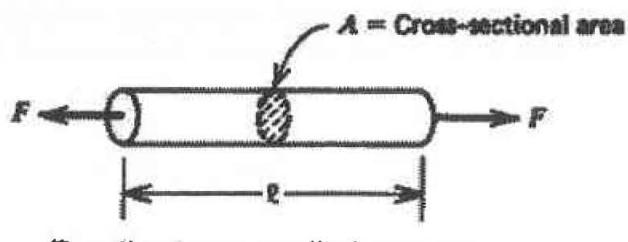

Figure 3 (Rajah 3)
- (c) (i) Based on Figure 3, proof that the change in resistance, in a strain sensor is $\Delta R \approx 2R_o \frac{\Delta l}{l_o}$